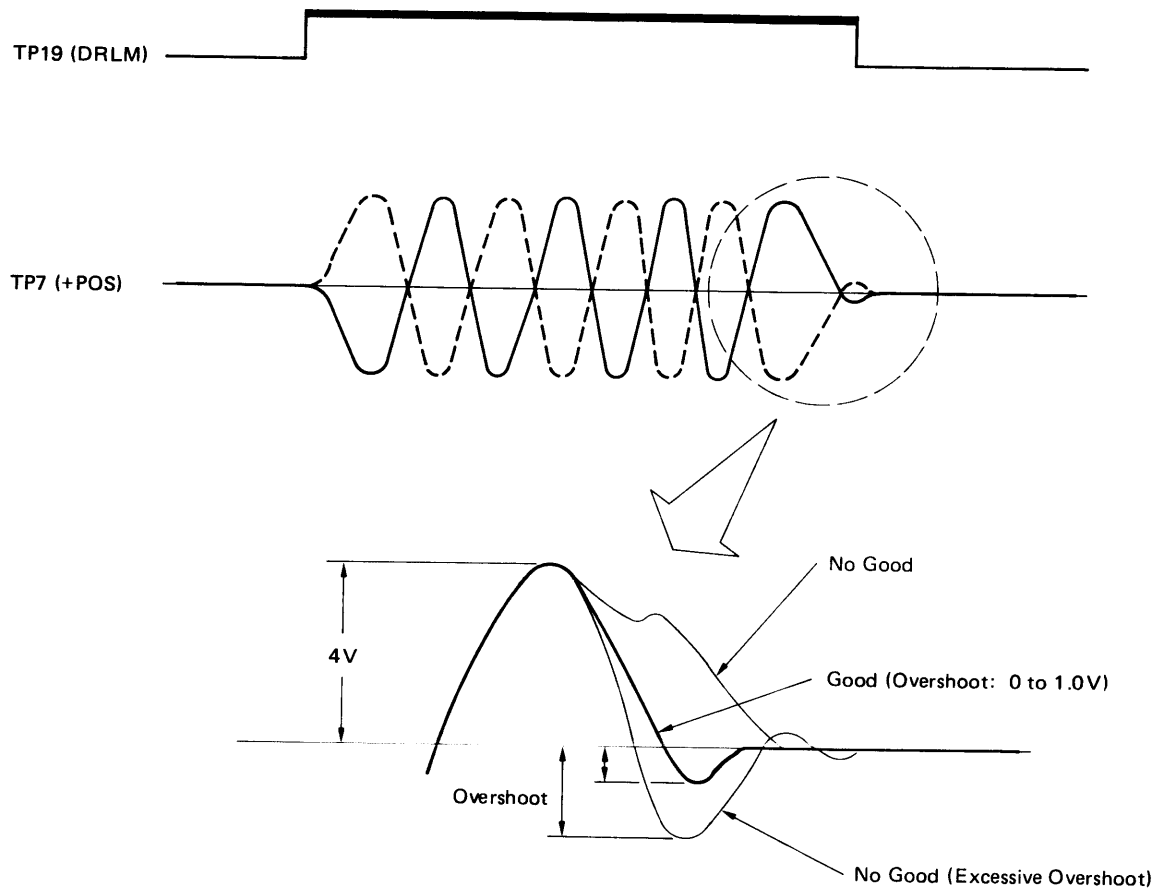

Figure 6-6-7 Overshoot Adjustment
- (1) Confirm that unit has normal status.
- (2) Issue the alternate seek command between Cylinder 0 and 8 repeatedly.
- (3) Connect the test point TP19 (DRLM) to an oscilloscope and trigger with the positive going edge at the signal (DC coupled).
- (4) Connect the test point TP7 (+POS) to the other channel at the oscilloscope (DC coupled).
- (5) Adjust the Position Signal transient (overshoot) to linear mode with a potentiometer RV4 according to Figure 6-6-7.